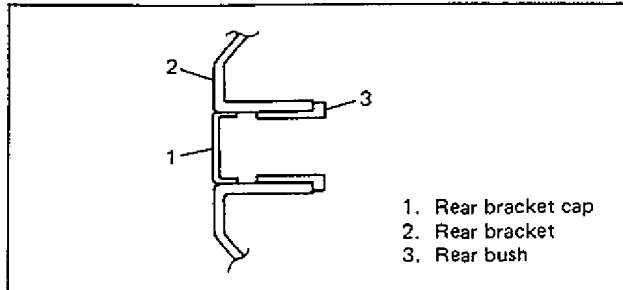

Fig. 6G1-13
- 3) Apply grease. (Refer to Fig. 6G1-2.)